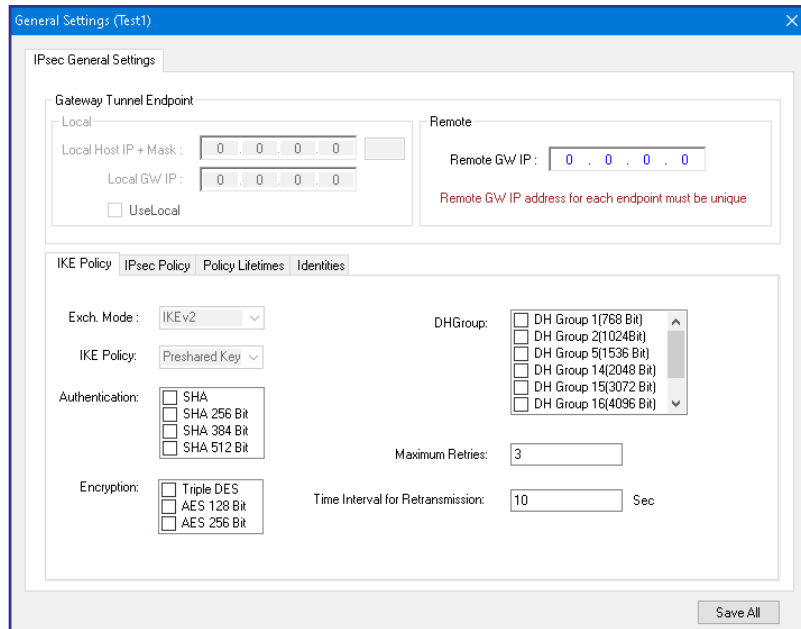

Figure 3-19 IPsec General Settings Screen
4. Select an available Endpoint from the "Configure Endpoint" screen and then select **Edit**. IPScom will display the "IPsec General Settings" screen (Figure 3-19) which allows the user to configure IPsec security settings, including IKE (Internet Key Exchange) Policy, IPsec Policy, Policy Lifetimes and Identities.